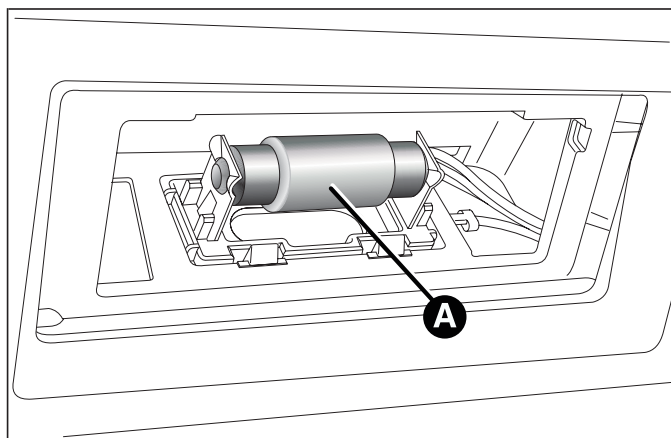

fig. 136
- ☐ replace the bulb A fig. 136, releasing it from the side contacts;